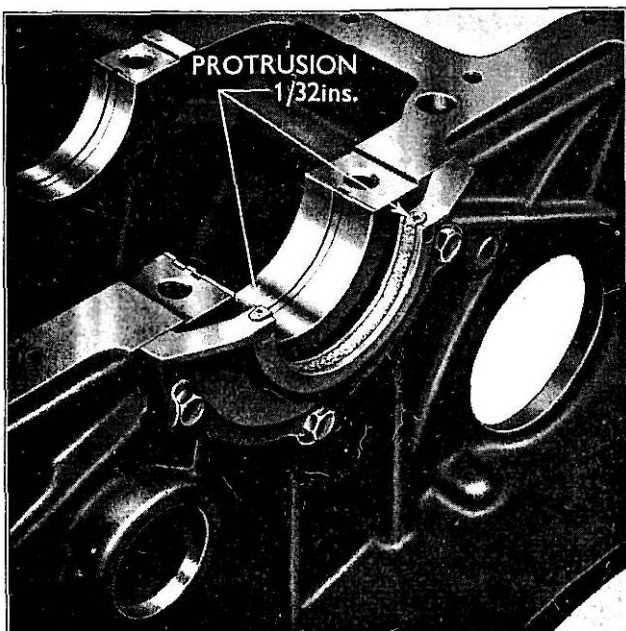

Fig. 17
- 4 Fit a new lower half rear oil seal. This should be previously soaked in engine oil for one hour and when fitted should protrude at its ends $\frac{1}{32}$ in. above the sump face, in a similar manner to the upper half seal in the cylinder block (see Fig. 17).